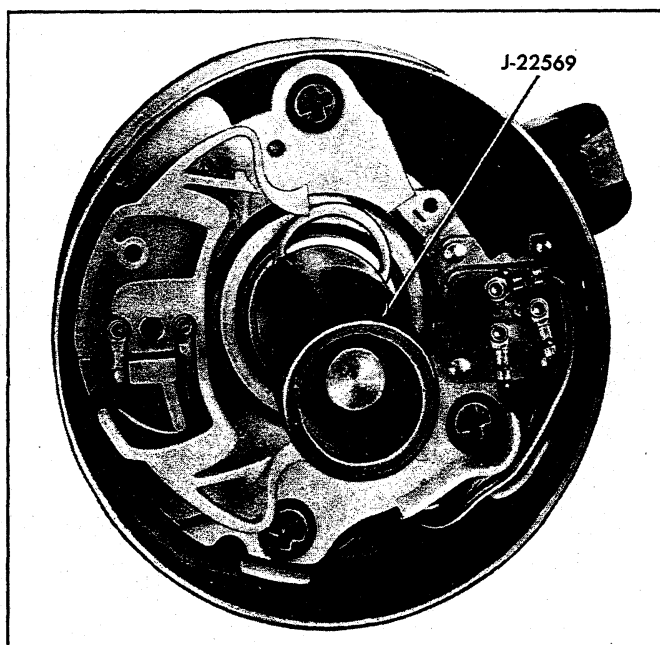

Fig. 28—Removing or Installing "C" Ring Retainer Using Tool J-22569
6. Remove "C" retaining ring from upper steering shaft using snap ring remover Tool J-22569 as shown in Figure 28.
7. Slide thrust washer and wave washer off upper steering shaft (Fig. 28).
20. Start "C" retaining ring over steering shaft taper. Complete installation of retaining ring using snap ring installer J-22659 as shown in Figure 28. Be sure "C" retaining ring is completely seated into steering shaft groove.
7. Remove "C" retaining ring from upper steering shaft using snap ring remover Tool J-22569 (fig. 28).
8. Slide thrust washer and wave washer off upper steering shaft (fig. 28).